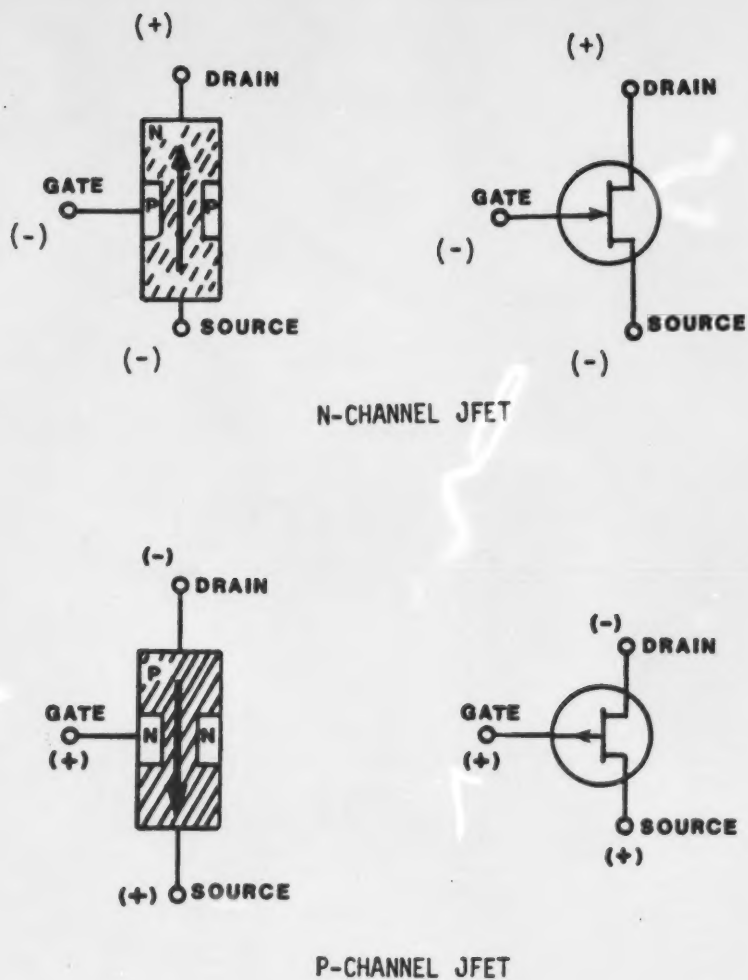

Figure 10
- (11.) You have learned about JETs by studying the operation of the N-Channel type. P-channel JFETs are identical in principles of operation to N-channel JFETs. The difference between them is that the P and N materials in the solid bar and gate are reversed. Thus source voltage potentials must also be reversed. Figure 10 shows source voltages and symbols for both N- and P-channel JFETs.